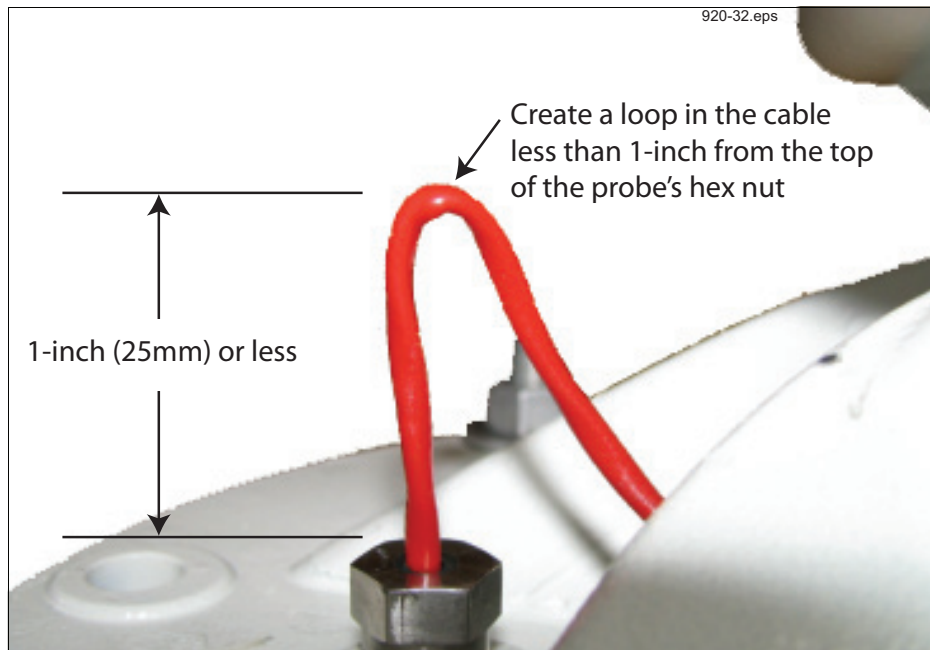

Figure 20. Preparing the thermal probe cable for the protective boot
5. Make a small bend in the thermal probe cable no more than one inch above the probe hex nut (see Figure 20).